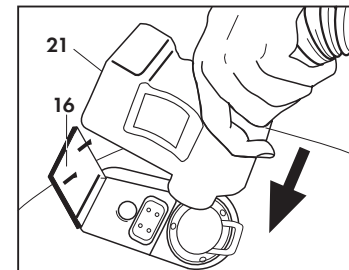

Fig. 10
Close the accessories socket door (16) against the body of the quick connection and ensure that the two parts latch onto each other. (**Fig. 10**)